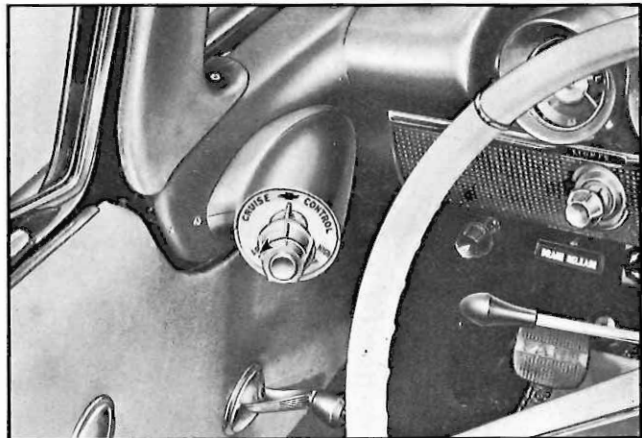

Fig. 10—Cruise Control Knob
1. Rotate selector knob counterclockwise (fig. 10) as far as it will turn without forcing.